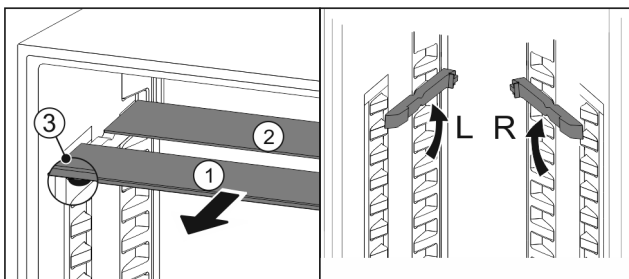

Fig. 85
- Pull the glass panels out Fig. 85 (1) from the front, one at a time.
- The glass panel Fig. 85 (1) and trim strip are at the front.
- The stops Fig. 85 (3) point down.